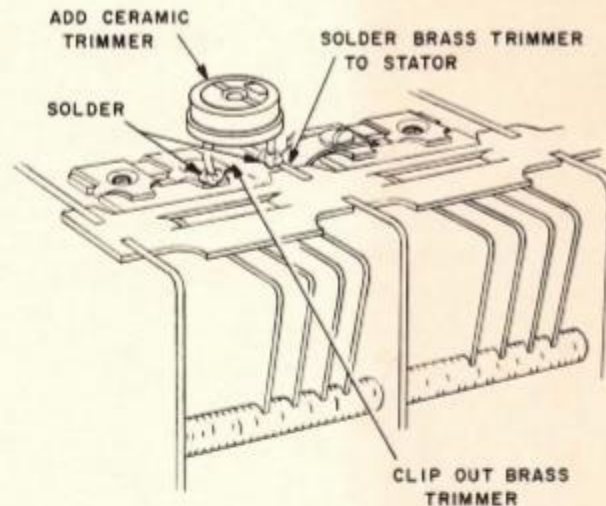

Figure 1. Illustration of Tuning Capacitor, Showing Change.
MODIFICATION PROCEDURE (Refer to figure 1)
5. This completes the modification. The tuning gang should appear as shown in figure 1.